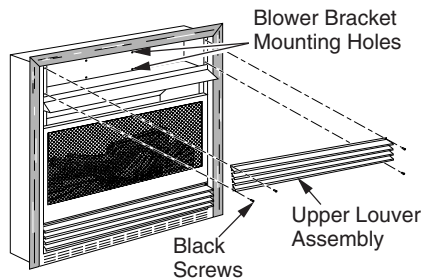

Figure 15 - Removing Upper Louver Assembly
2. Remove 4 screws from louver assembly (see Figure 15). Save these screws.
Note: When switch is in the AUTO position, the fan will start after the heater has run for a few moments. The fan will continue to run for several moments after the heater has been turned off. When switch is in the ON position, the fan will run until turned to OFF. Reinstall upper louver assembly and hood if previously removed, (see Figure 15, page 13). Close lower louver door.
8. Reinstall upper louver assembly and hood if previously removed, (see Figure 15, page 13). Close lower louver door.